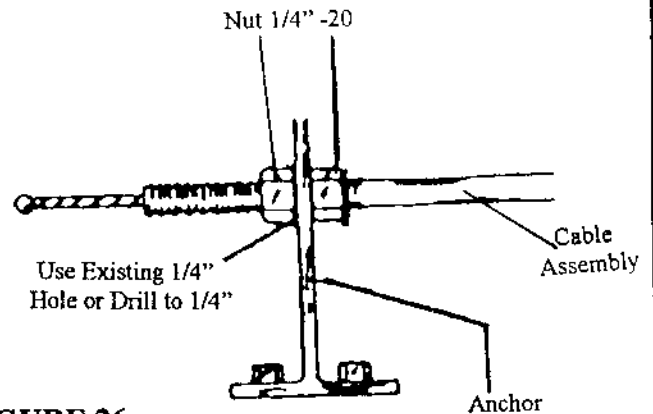

FIGURE 26
5. The 1/4"-20 Nut can also be used if there is a pre-existing 1/4" hole in a bracket on the vehicle or if it is possible to drill a 1/4" hole in a bracket on the vehicle. (**Figure 26**)